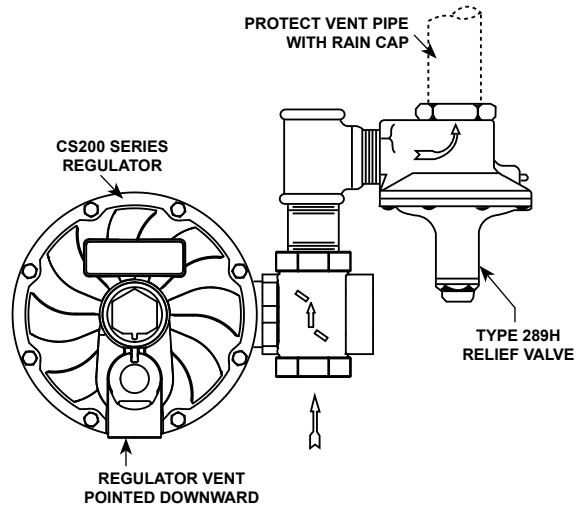

Figure 4. CS200 Series Regulator Installed with Vent Pointed Downward and with a Type 289H Relief Valve for High Capacity Relief
outdoor installations, point the spring case vent downward to allow condensate to drain (see Figure 4). This minimizes the possibility of freezing and of water or other foreign materials entering the vent and interfering with proper operation.
- **Install the regulator with the vent pointed vertically down, see Figure 4.** If the vent cannot be installed in a vertically down position, the regulator must be installed under a separate protective cover. Installing the regulator with the vent down allows condensation to drain, minimizes the entry of water or other debris from entering the vent, and minimizes vent blockage from freezing precipitation.
If the regulator is used in conjunction with a Type 289H relief valve, it should be installed as shown in Figure 4. The outside end of the vent line should be protected with a rainproof assembly.